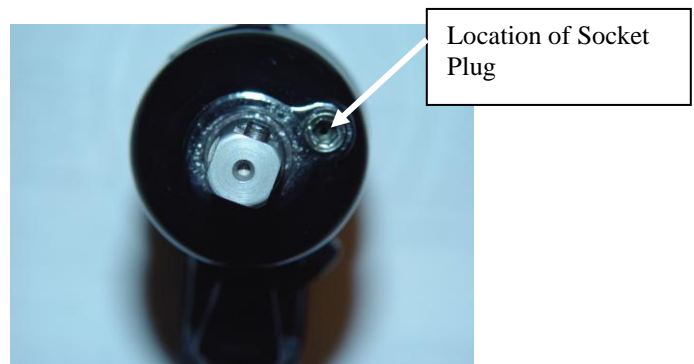

Figure 1 End View of Impulse Wrench
4. See Figure 1 below to locate and remove the Socket Plug described in the operations manual on page 3.